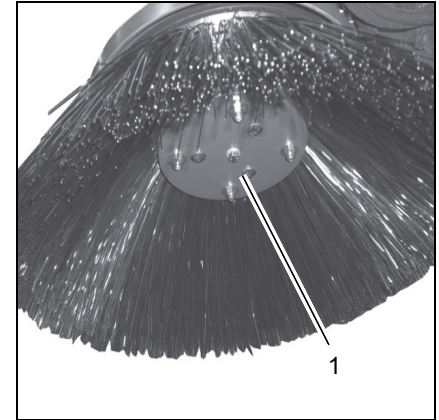

Fig.14
4. Loosen hexagonal nut (Fig. 14/1) below the side broom.